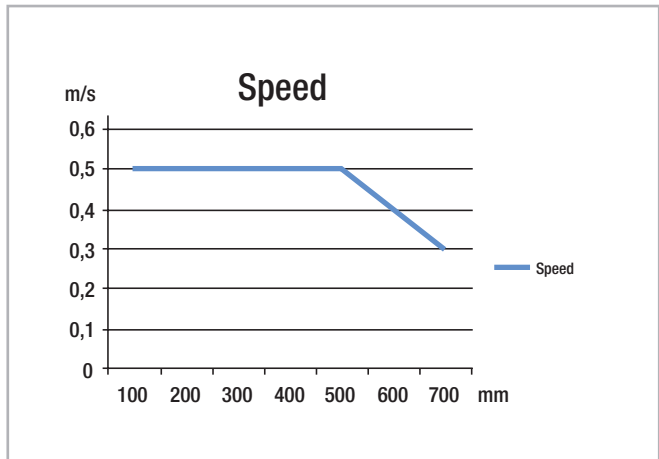

Fig. 27
The extension speed is determined by the size of the intermediate elements. Therefore, the maximum extension speed is inversely proportional to the overall extension of the rails (see fig. 27). The maximum extension speed is also directly related to the applied load and operating time. The indicated data refers to continuous operation at the maximum load capacity.
- Light Rail full and partial extensions are suitable for use in automatic systems. For this, the stroke should remain constant in all moving cycles and the extension speed must be checked (see pg. LR-14, fig.27). The movement of the extensions is enabled by internal ball cages, which could experience an offset from the original position with differing strokes. This phase offset can have a negative effect on the running properties or limit the stroke. If differing strokes occur in an application, the drive force must be sufficiently dimensioned in order to appropriately synchronize the ball cage offset. As an alternative, an extra full stroke cycle can be performed every certain number of cycles, in order to re-phase the ball cage in its correct position.